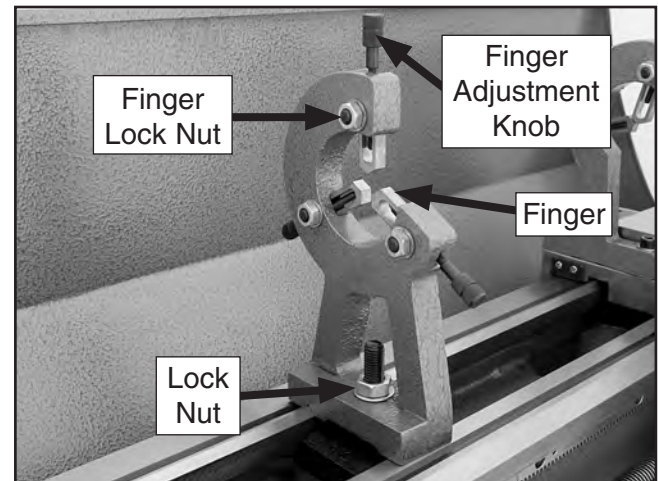

Figure 40. Steady rest components.
Familiarize yourself with the steady rest components shown in **Figure 40** to better understand its operation.
3. Loosen the finger lock nuts shown in **Figure 40**, turn the finger adjustment knobs, and adjust the fingers as required for the workpiece.